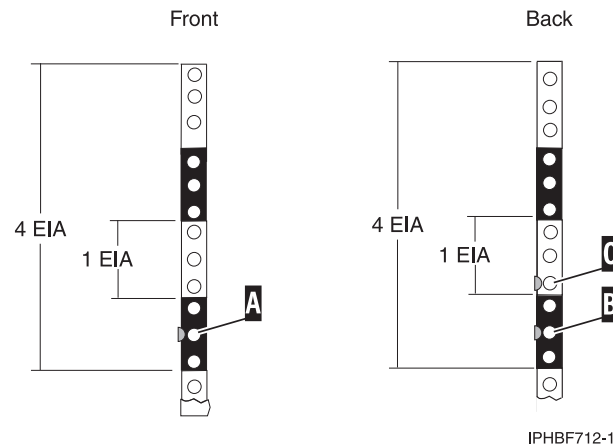

Figure 21. Marking holes on the front and back of the rack frame
2. Face the front of the rack and work from the right side. Place a self-adhesive dot at the middle hole of the bottom EIA unit of the four EIA units that you are using for this system unit. See **(A)** in Figure 21 on page 29.
3. Place another self-adhesive dot next to the middle hole of the bottom EIA unit on the left side of the rack (**A**) as shown in Figure 21.
5. Place a self-adhesive dot at the middle hole of the bottom EIA unit (**B**) as shown in Figure 21.
6. Place a self-adhesive dot at the bottom hole of the next (higher) EIA unit (**C**) as shown in Figure 21.